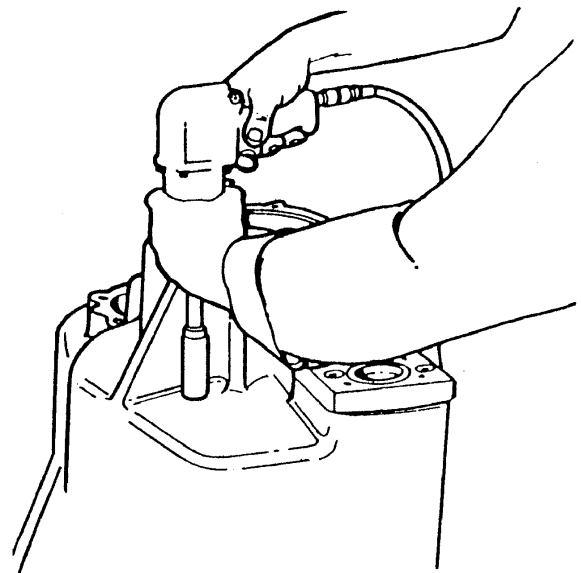

Fig. 7C.18. Oil Baffle Bolts Removal
7. Remove input shaft manifold (Fig. 7C.17 and 11, Fig. 7C.6) with bearings. Remove shims (12) from under manifold. Remove bolts securing rear cover (1) to housing (6) and bolts securing housing to oil baffle (37) (Fig. 7C.18). Remove scavenge tube (35) with gasket (36).